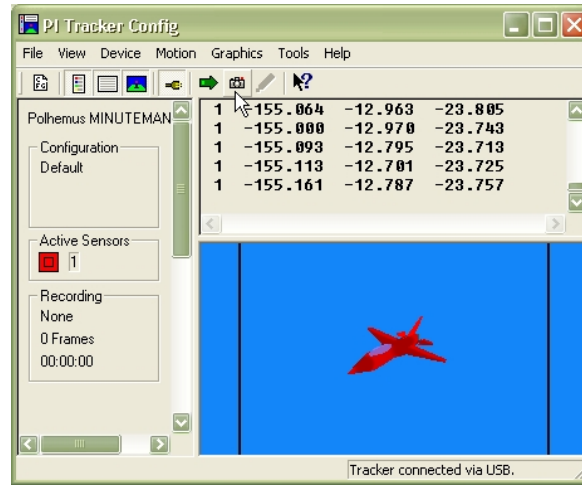

Figure 6 Sensor Orientation Data Collection Screen
- iii. Collect MINUTEMAN sensor orientation data (see Figure 6) by clicking on the single frame toolbar button . Note the orientation of the sensor displayed by PiMgr: